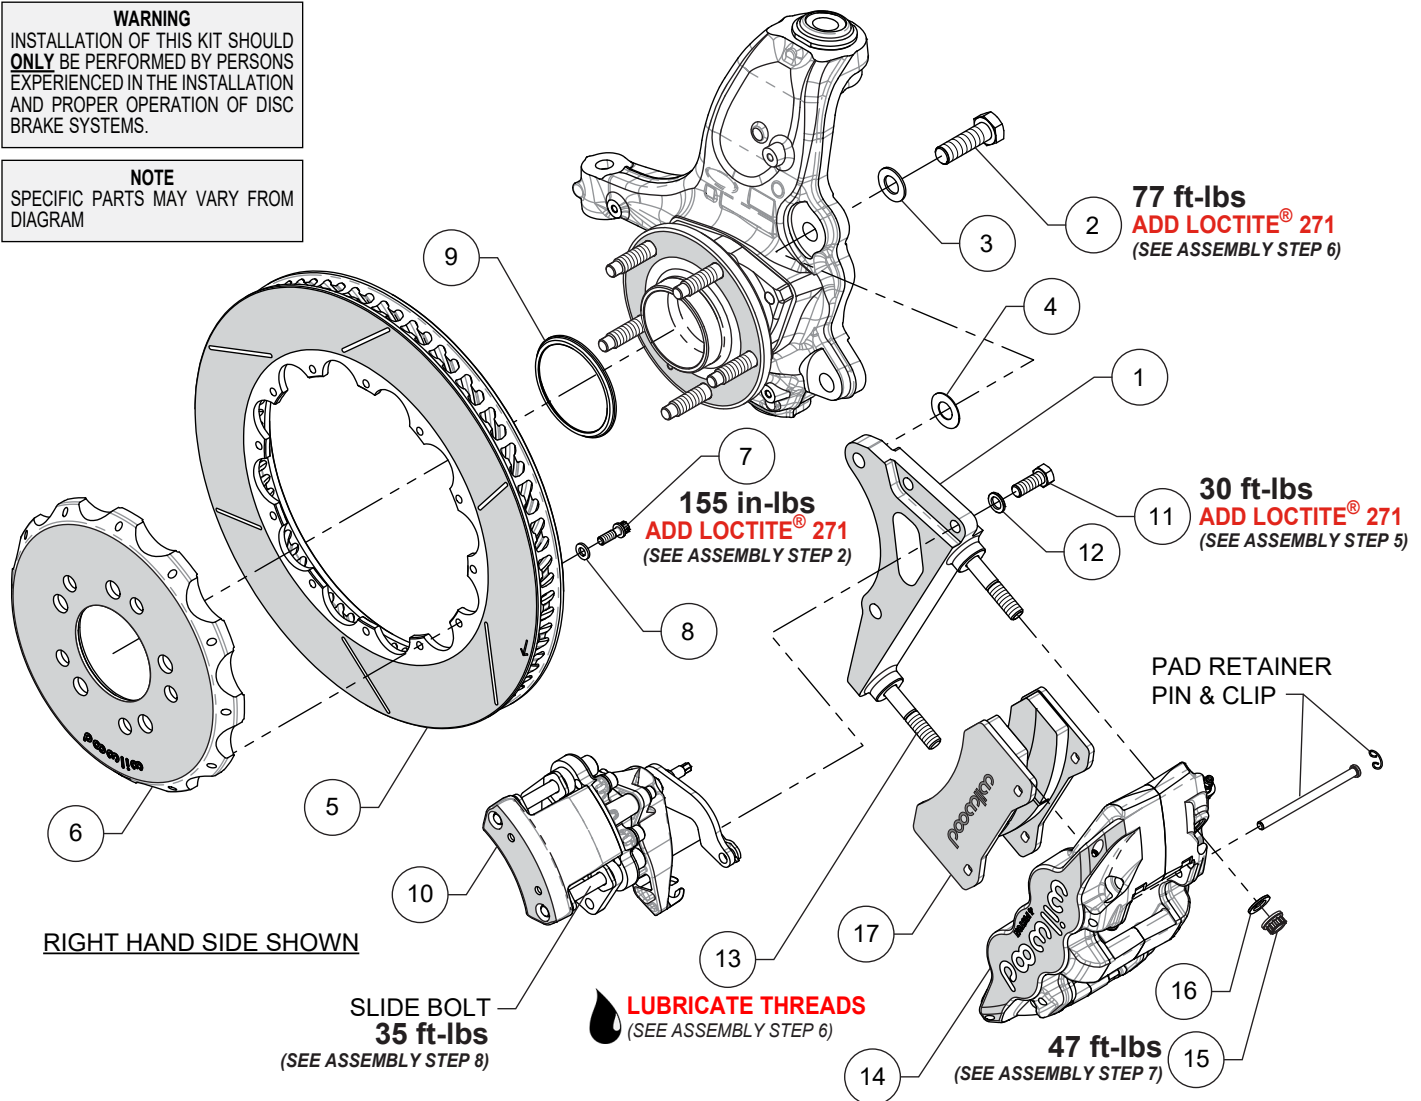
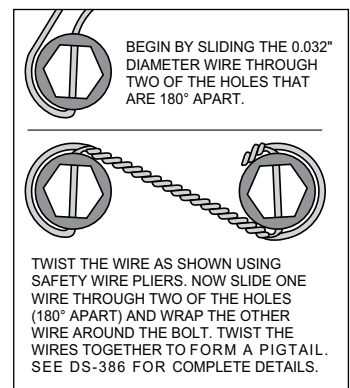

Figure 1. Typical Installation Configuration
Figure 3.
**NOTE:** Numbers in parenthesis refer to the parts list and Figure 1 on the preceding pages.
**STEP 1** The caliper mount bracket (1) should initially be installed with clean, dry threads on the mounting bolts. Orient the bracket, as shown in Figure 1 and Photo 2, and install using bolts (2) and washers (3). Initially place one .029" thick shim (4) on each bolt between the bracket and upright, Figure 1, Photo 1. Temporarily tighten the mounting bolts. **NOTE:** The bracket must fit squarely against the mount bosses on the upright.
**STEP 2** Orient the rotor (5) and the hat (6) as shown in Figure 1 and Photo 3. Attach rotor to hat using bolts (7) and washers (8). Apply red *Loctite*® 271 to the bolt threads and torque to value shown in Figure 1 using a criss-cross pattern. For an added measure of security, the bolts may be safety wired using standard 0.032 inch diameter stainless steel safety wire as shown in Figure 3. Refer to Wilwood's data sheet DS-386 (available at [www.wilwood.com/Pdf/DataSheets/ds386.pdf](http://www.wilwood.com/Pdf/DataSheets/ds386.pdf)) for complete safety wire installation instructions.
**STEP 3** Slide the rotor registration adapter (9) onto the axle register on the axle hub with the smaller O.D. facing outward, Photo 4.
parking brake caliper assembly (10) by removing the two side bolts, see Photo 6 for details. Orient the parking brake caliper mount bracket as shown in Photo 7 and attach to caliper mounting bracket (1) using bolts (11) and washers (12). Apply red *Loctite*® 271 to the threads and torque bolts to value indicated in Figure 1.
**STEP 6** Lubricate the caliper mounting studs (13) with lightweight oil. Mount the caliper (14) onto the bracket (1) using lock nuts (15) and washers (16), Figure 1. Temporarily tighten the lock nuts. View the rotor through the top opening of the caliper. The rotor should be centered in the caliper, Photo 8. If not, adjust by adding or subtracting shims (4) between the bracket and the upright. Always use the same amount of shims on each of the two mounting bolts. Once the caliper alignment is correct, remove the bracket mounting bolts (2) one at a time, apply red *Loctite*® 271 to the threads, and torque to value shown in Figure 1.
**STEP 7** Unmount the caliper from the mounting bracket by removing lock nuts (15) and washers (16). Remove the two pad retaining pins from the caliper (14) by carefully popping out the pin retaining clips and sliding out the pins, see Figure 1. Insert the brake pads (17) into the caliper from the bottom, Figure 1 and Photo 9. With the friction material facing the rotor, secure the brake pads in place with the pad retaining pins and clips. Reinstall the caliper onto the caliper mounting bracket using nuts (15) and washers (16) and torque to value shown in Figure 1.
**STEP 8** Slide the parking brake caliper assembly (10) over the rotor and mount to parking brake caliper bracket using slide bolts, see Photos 6 and 10 for reference. Ensure the friction material of the brake pads are facing the rotor. Torque slide bolts to value shown in Figure 1.